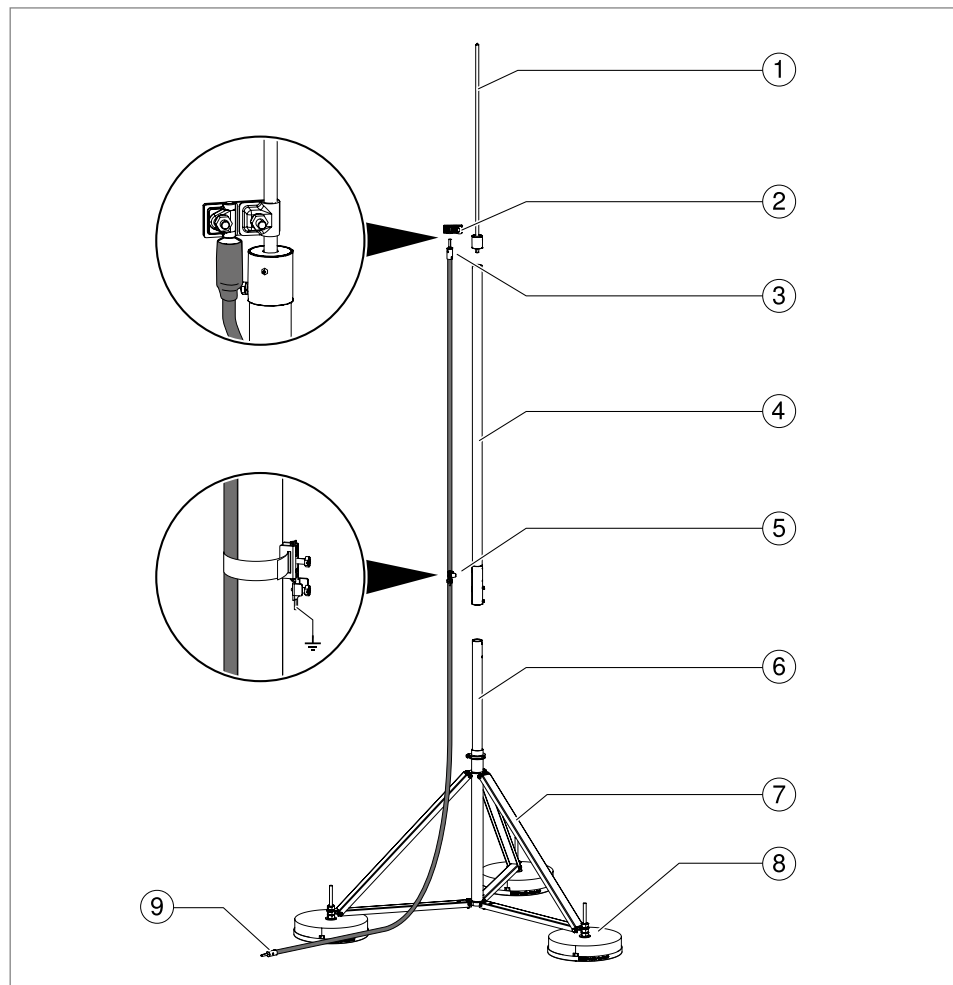

Fig. 36: isFang air-termination rod with external isCon® conductor
1. Mount the connection plate (type isCon® AP1-16 VA) at the bottom end of the air-termination rod, as shown in Fig. 36. Tightening torque: 24 Nm.